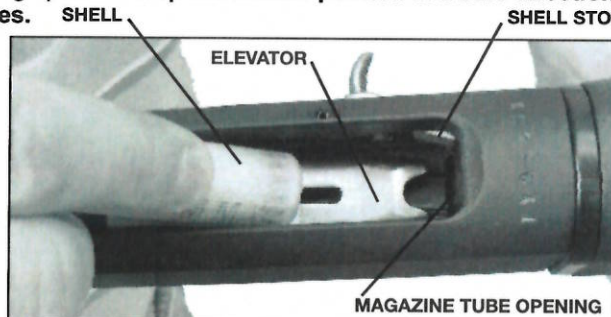

Figure 7a
1. Push the shotshell into the loading port, depressing the elevator as shown in Figure 7a. You might need to press the bolt release button to release the elevator. Depressing the elevator will expose the magazine tube opening within the receiver.